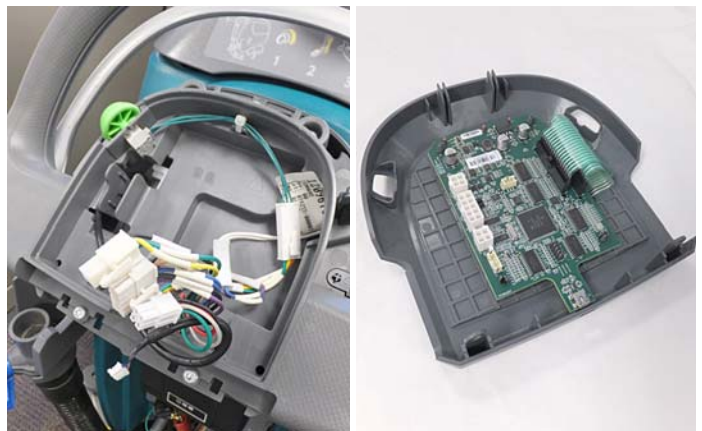

Fig. 3
4. Disconnect the electrical connections from old control board and install new bezel assembly (Figure 3)